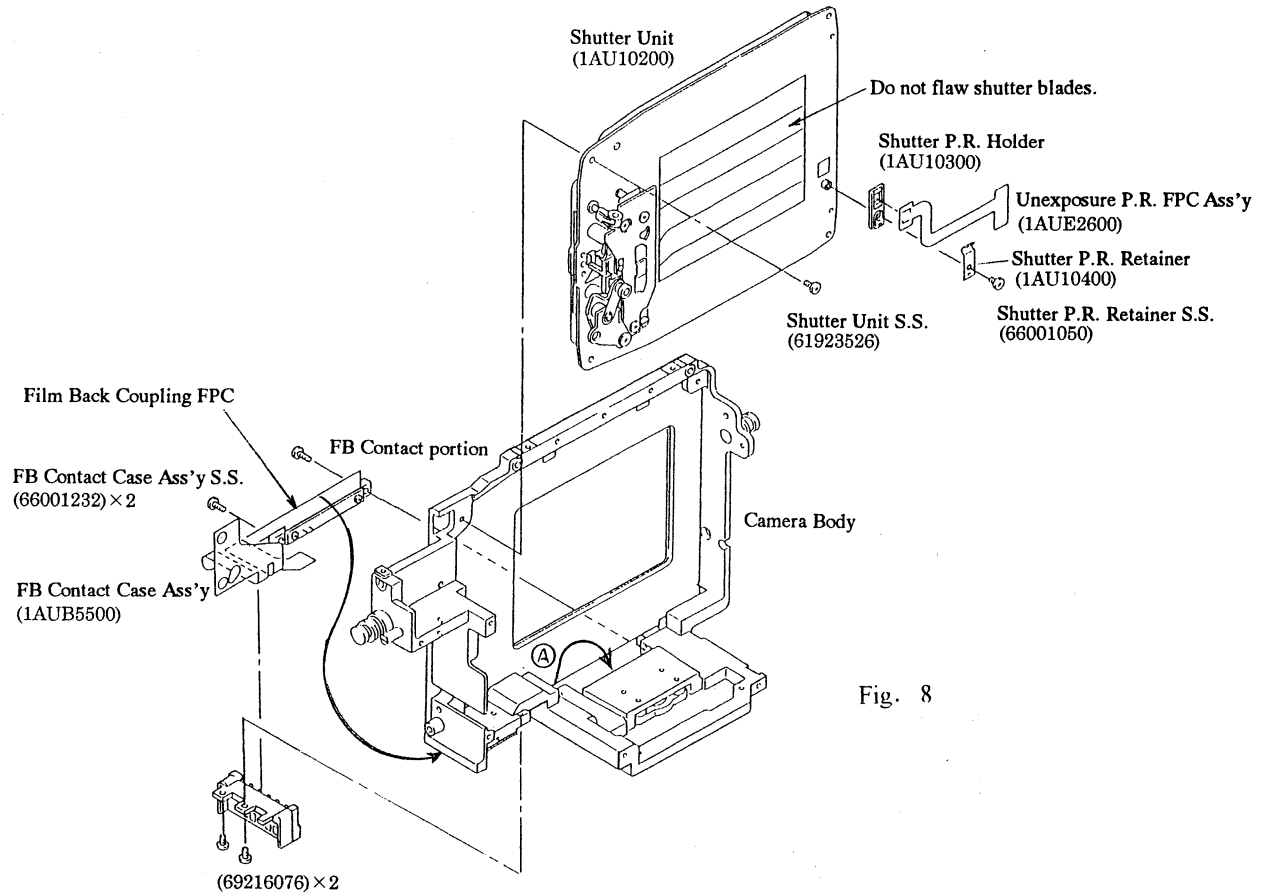

Fig. 8
(See Fig. 8)
- 1) Pass the FB Contact portion of the FB Contact Case Ass'y (1AUB5500) through the groove ① in the Camera Body as shown in Fig. 8 and tighten the FB Contact Case Ass'y Setscrews (66001232) × 2.